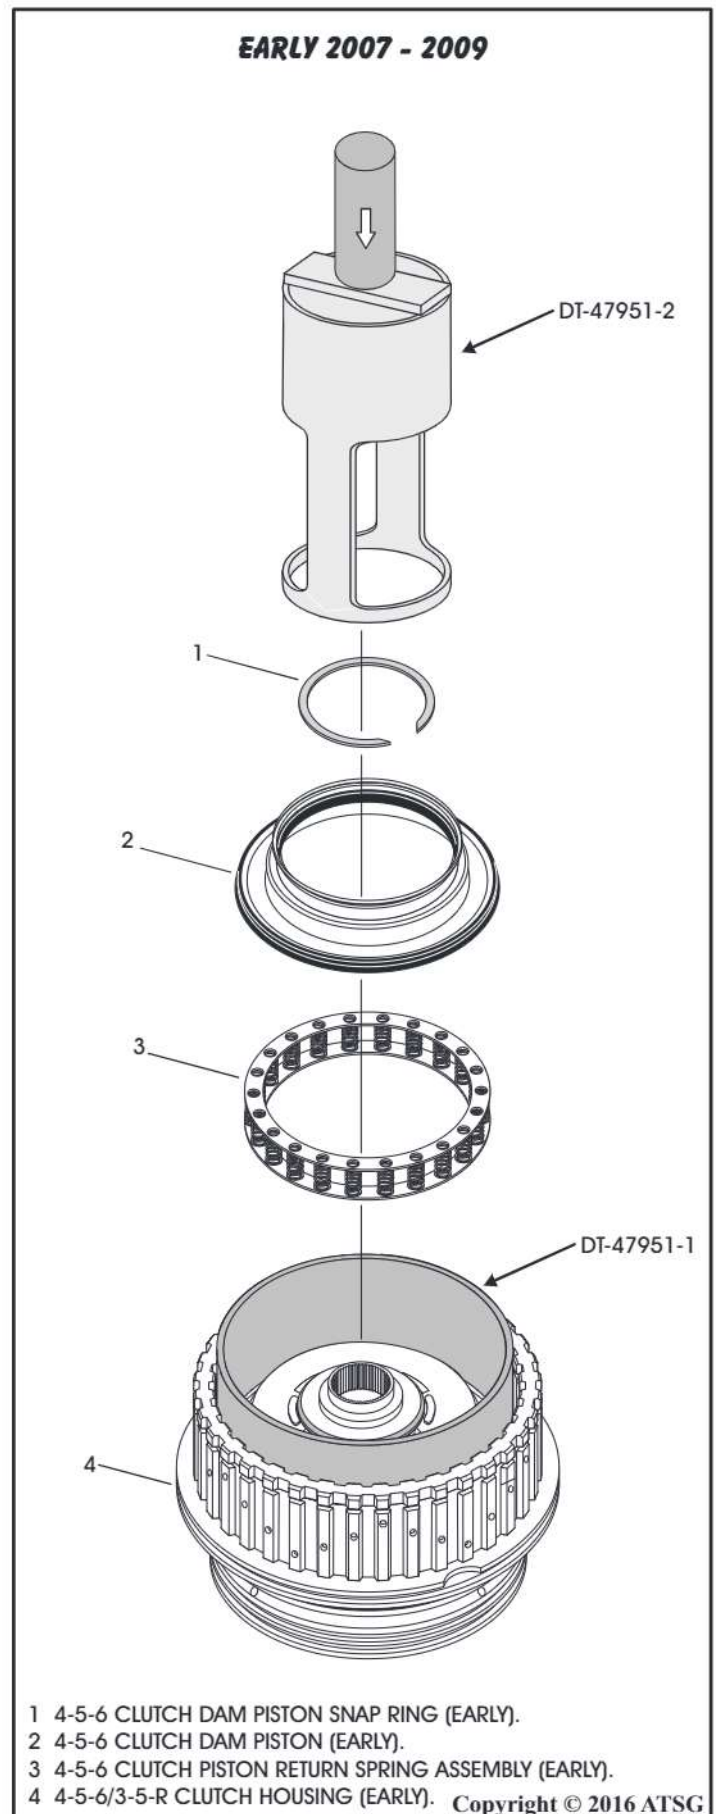

Figure 108
57. Install 4-5-6 clutch piston return spring assembly as seen in Figure 108.
58. Install the 4-5-6 fluid dam piston using the DT-47951-1 seal protector as shown in Figure 108.
59. Install the 4-5-6 fluid dam piston retaining snap ring shown in Figure 108 using the DT-47951-2 spring compressor as shown in Figure 108.